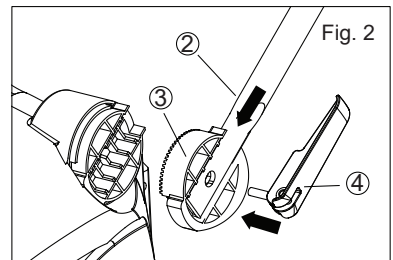

Fig. 2
2. Insert the lower handle ② into the circumgyrate block ③. Then insert the knob ④ from outside through the hole in the lower handle ②. Attach the bolt in the Knob ④ to the Lawn Rake (See Fig. 2).